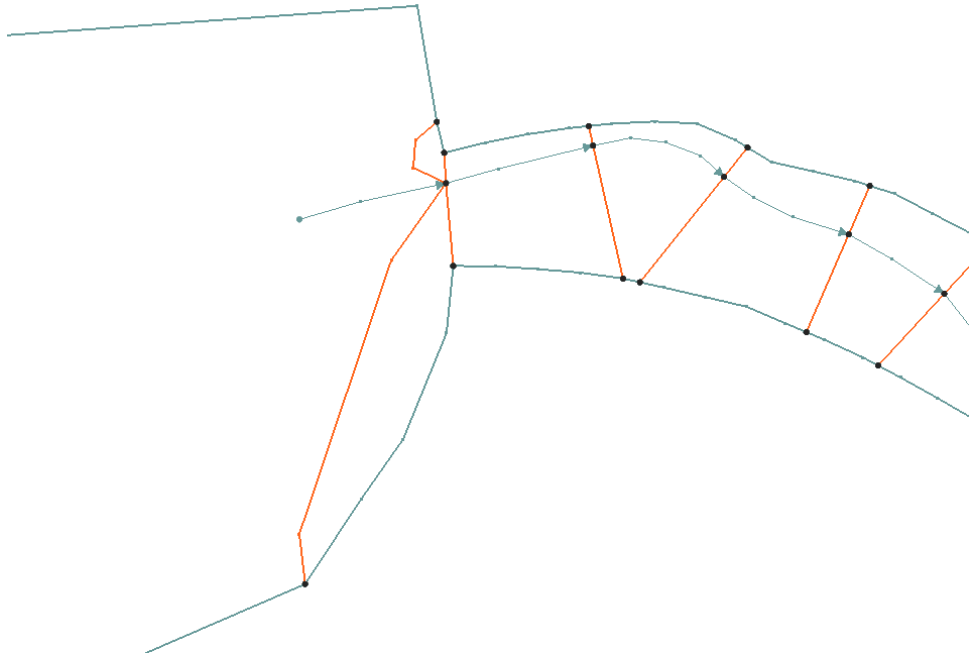

Figure 17 1D/2D Connection Arcs added at upstream end.
9. With the "1D_2D_Connection" coverage still active, click on the *Create Feature Arc*  tool and digitize two arcs connecting the upstream side of the 2D domain to the downstream node of the 1D weir boundary. (Note: the length or shape of any of the 1D/2D connection arcs do not matter. TUFLOW simply uses their end points to connect nodes in the 1D network with cells in the 2D grid.) Figure 17 illustrates these digitized arcs.